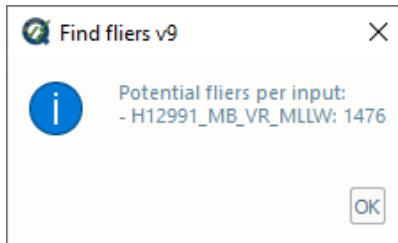

Fig. 2.6: The output message at the end of **Flier finder v9** execution.
- Click **Find fliers v9**. After executing, the output window opens automatically (Fig. 2.6), and the results are shown: